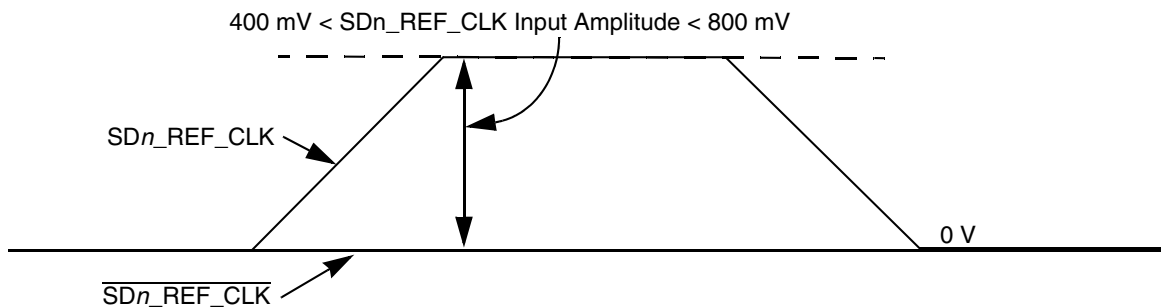

Figure 48. Single-Ended Reference Clock Input DC Requirements
- The SD_n_REF_CLK input average voltage must be between 200 and 400 mV. Figure 48 shows the SerDes reference clock input requirement for single-ended signaling mode.